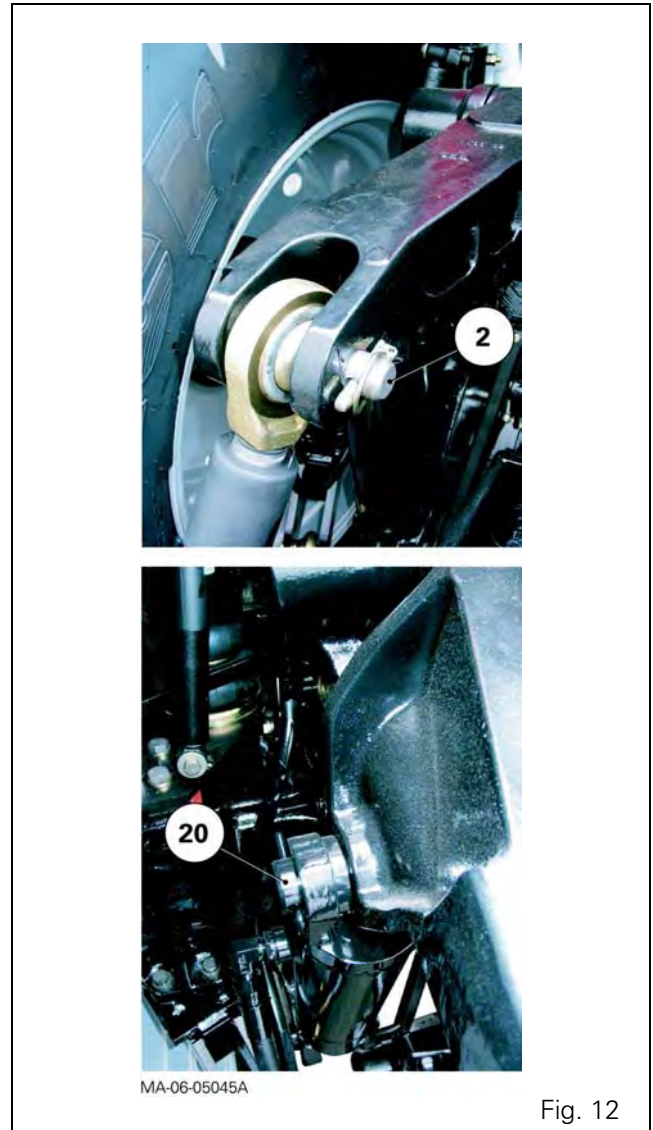

Fig. 12
4. Remove the upper pins (20) from the rams and the pins from the lift rods (2) (Fig. 12).